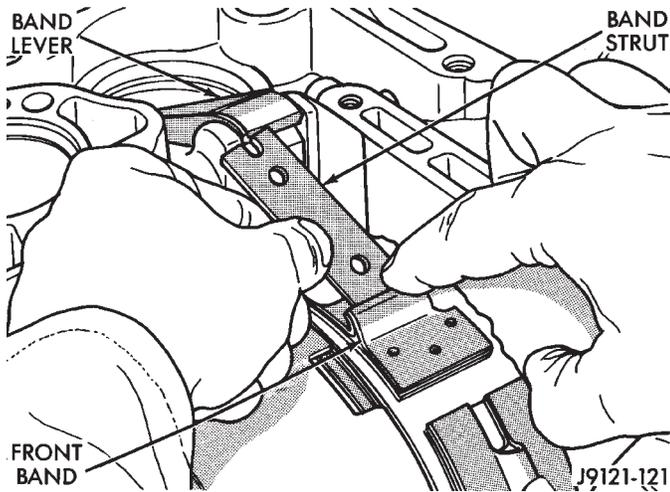

Fig. 119 Removing/Installing Front Band Strut
- (17) Loosen front band adjusting screw until band is completely loose.
- (18) Squeeze front band together and remove band strut (Fig. 119).